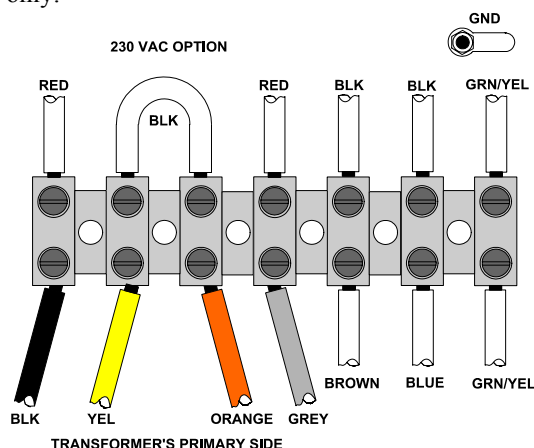

Figure 13. 230 VAC wiring
6. To select the desired mains voltage, wire the terminal block as shown in Figure 13 or 14.